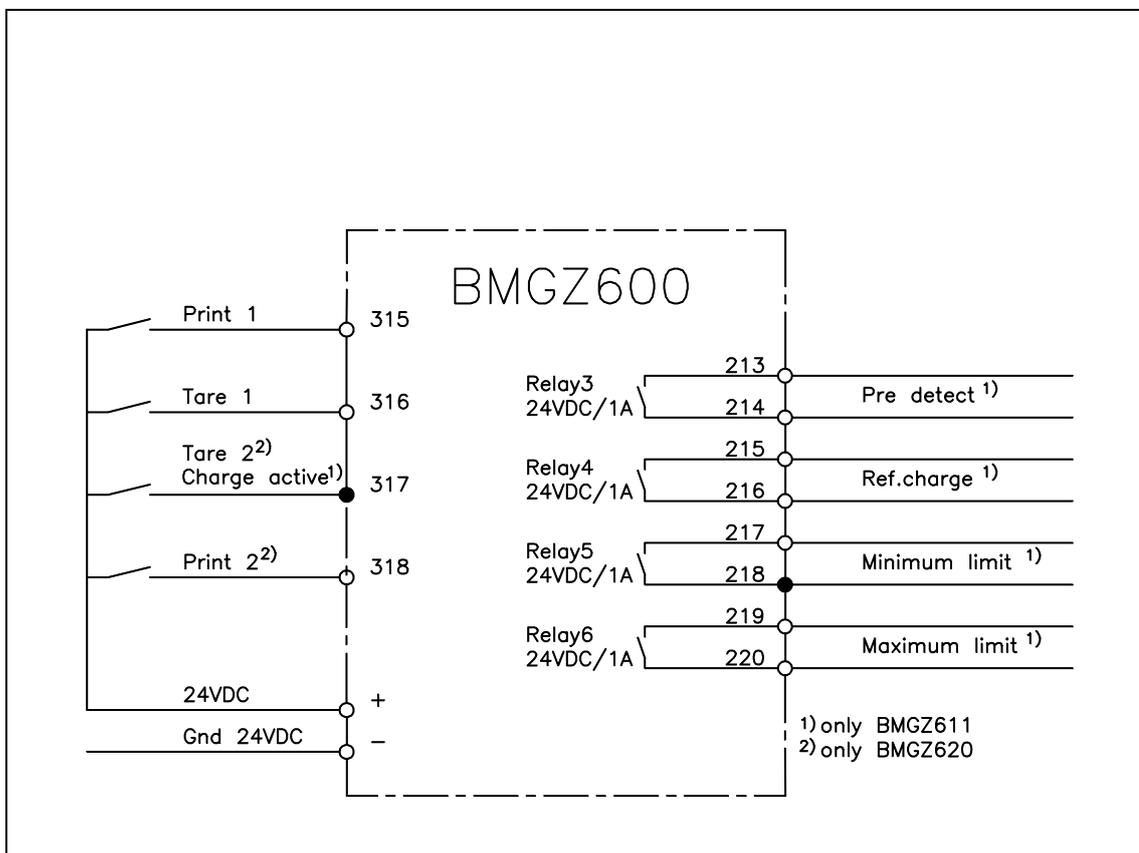

fig. 20: Wiring of the digital inputs and outputs
The version BMGZ611A has additional digital inputs and outputs. The digital inputs are activated by applying 24VDC (terminal +) (ref to fig. 20). There can also be used a external 24VDC source. But then, the external ground has to be connected with terminal „Gnd 24VDC“ (terminal -).
The digital outputs are led internally to relays 24V / 1A. The contacts can be taken from the terminals in any kind (J21...J26) (fig. 20).
- Press „Start“ key (refer to fig. 20); conveyor belt starts and silo opens automatically. The bulk material runs over the belt scale. When Pre detect value